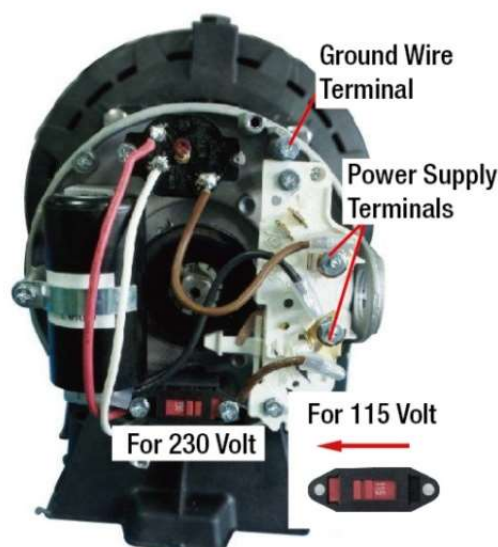

Figure 4
- Flip the switch to 115Volt (Figure 4).
Step 7. Connect current carrying conductors to terminals L1 and L2 under motor canopy. When replacing motor, check wiring diagram on motor nameplate against Figure 4. If the motor wiring diagram does not match Figure 4, follow the diagram on the motor.
NOTICE: 115/230 Volt single phase models are shipped from factory with motor wired for 230 volts. If power supply is 115 volts, remove motor canopy and reconnect motor as shown in Figure 4. Do not try to run motor as received on 115 volt current.